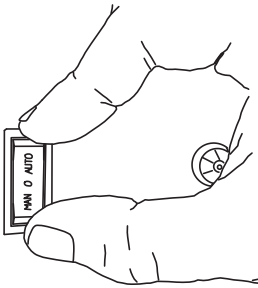

Figure 35 - Installing Rocker Switch
19. Push the rocker switch into the control panel (see Figure 35).